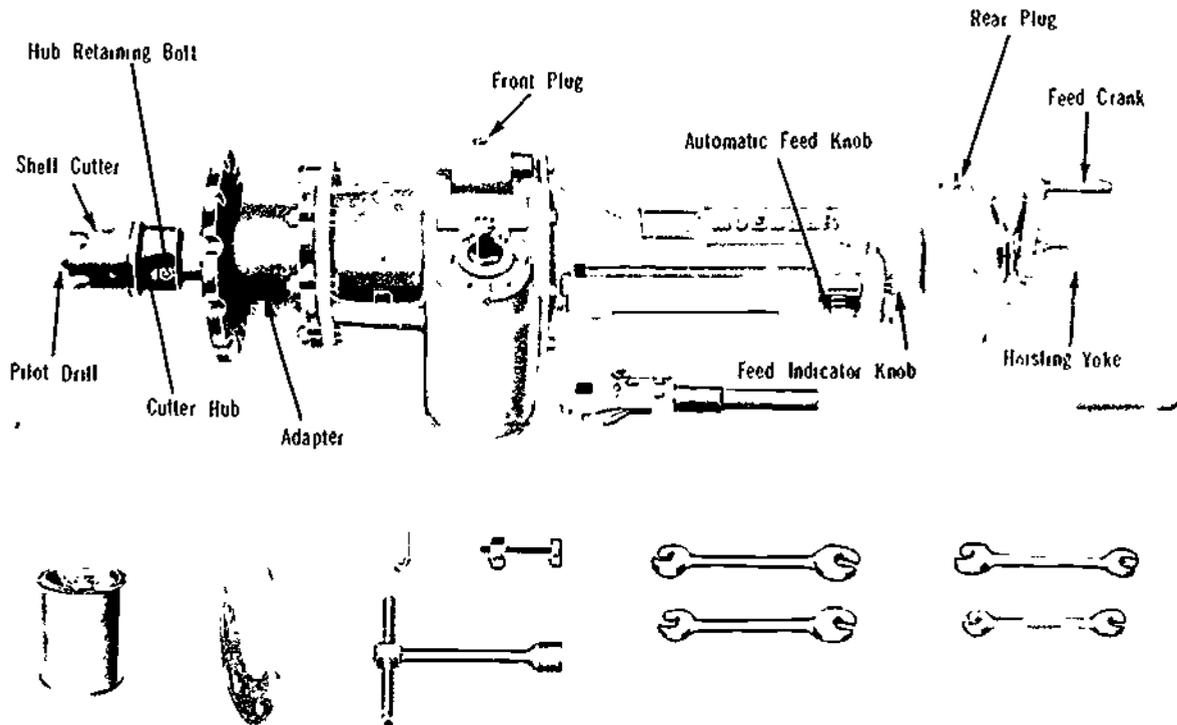

Figure 27-7. Power-Operated Drilling Machine Used with Saddle and Gate Valves
9. Figure 27-7 shows a power-operated drilling machine for cutting holes in water mains of all types. It is used with a saddle and gate valve for making NPS 2 to NPS 12 connections to a water main. This machine is driven by an air motor that operates on a pressure of 620 kPa.